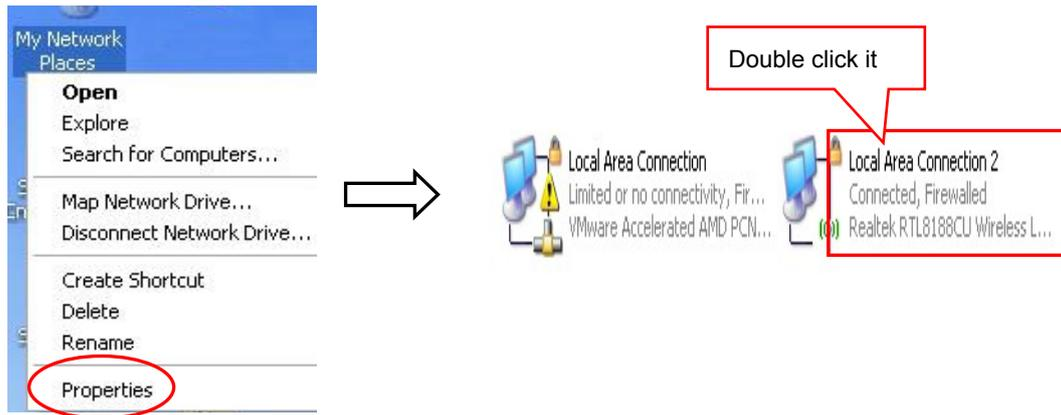

Figure 8
- (1) Get the security mode and encrypt type according to the corresponding network information given by the network administrator
- (2) Find them by entering the router of hotspot with the administrator’s account.
- (3) Find them through Windows operating system and the steps are shown below (Take WIN XP as an example):
- ① Right click “My Network Places”, and click “Properties”, then double click “Local Area Connection 2” (as shown in Figure 8).